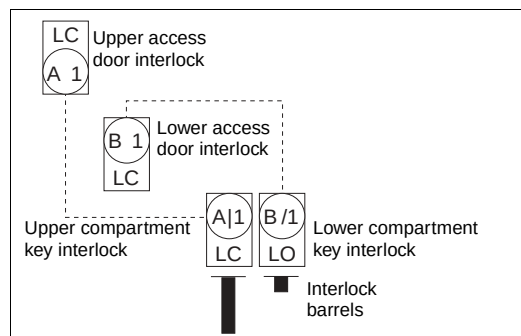

Figure 13: Interlock Status (Step 2.a.)
2. Lock closed (LC) the compartment key interlock to extend the interlock barrel and release the interlock key.
- a. If device is racked into an upper circuit breaker compartment, lock closed (LC) the left circuit breaker compartment key interlock to extend the left interlock barrel (see Figure 13) and release the interlock key.